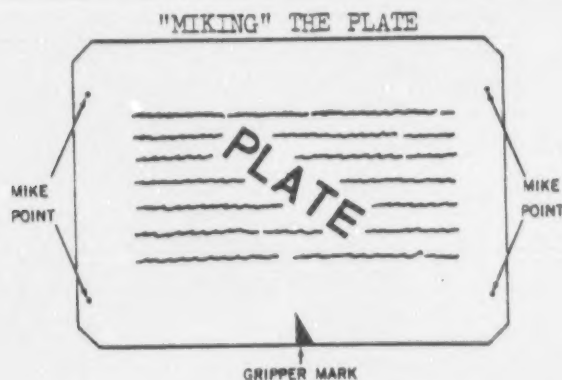

FIGURE 3
d. Measuring the thickness of a blanket and plate. Blanket and plate thickness will vary; therefore, they must be measured with a micrometer before being mounted on the press. In order to assure accuracy and prevent errors due to low spots, the blanket and plate are "miked" in several places and an average taken. The micrometer should not be placed at the gripper or tail edges of the blanket or plate, as the clamps and bars will make the surfaces uneven and cause false readings. Also, the micrometer should not be pushed so far onto the material being measured that the material contacts the inside edge of the micrometer frame. This will bend the material and cause a false reading. (See figures 3 and 4)